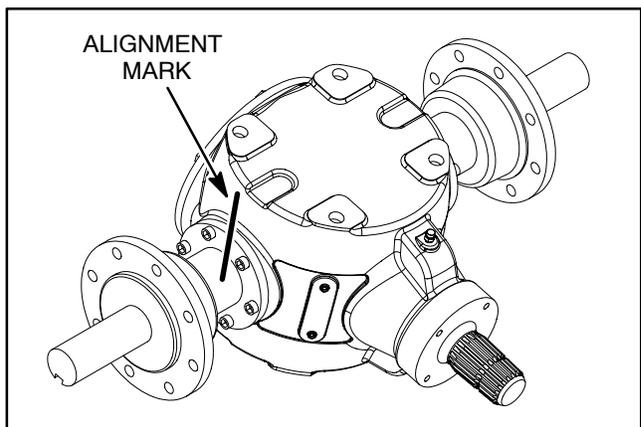

Figure 5
2. Use a marker to make a **diagonal** line across the housing and axle tubes for assembly purposes (Fig. 5).
3. Remove eight (8) cap screws and washers (item 12) that secure cover plate (item 14) to gearbox housing. Remove cover plate from housing.
4. Remove socket head screws (item 16) that secure axle tubes (items 5 and 22) to housing. Slide axle tube assemblies from gearbox.
C. If backlash is excessive (greater than 0.012"), move shim(s) (item 19) from non-gear side of gearbox to the gear side of gearbox. This shim movement will move bevel gear closer to the input shaft gear to reduce backlash.
D. If backlash is insufficient (less than 0.010"), move shim(s) (item 19) from gear side of gearbox to the non-gear side. This shim movement will move bevel gear away from the input shaft gear to increase backlash.
7. Apply a light coating of Permatex® No. 2 to mating surface of cover plate (item 14). Position cover plate to gearbox housing opening. and secure with eight (8) cap screws and washers (item 12).
8. Carefully slide axle tube assemblies onto output shaft ends taking care to not damage seals. Align marker line on housing and axle tube (Fig. 5). Secure axle tubes to housing with socket head screws (item 16).
9. Apply a light coating of grease on lips and OD of input seal (item 27). Install seal into gearbox bore taking care to not damage seal during installation. Seal should be installed until it is flush to slightly recessed into gearbox bore.